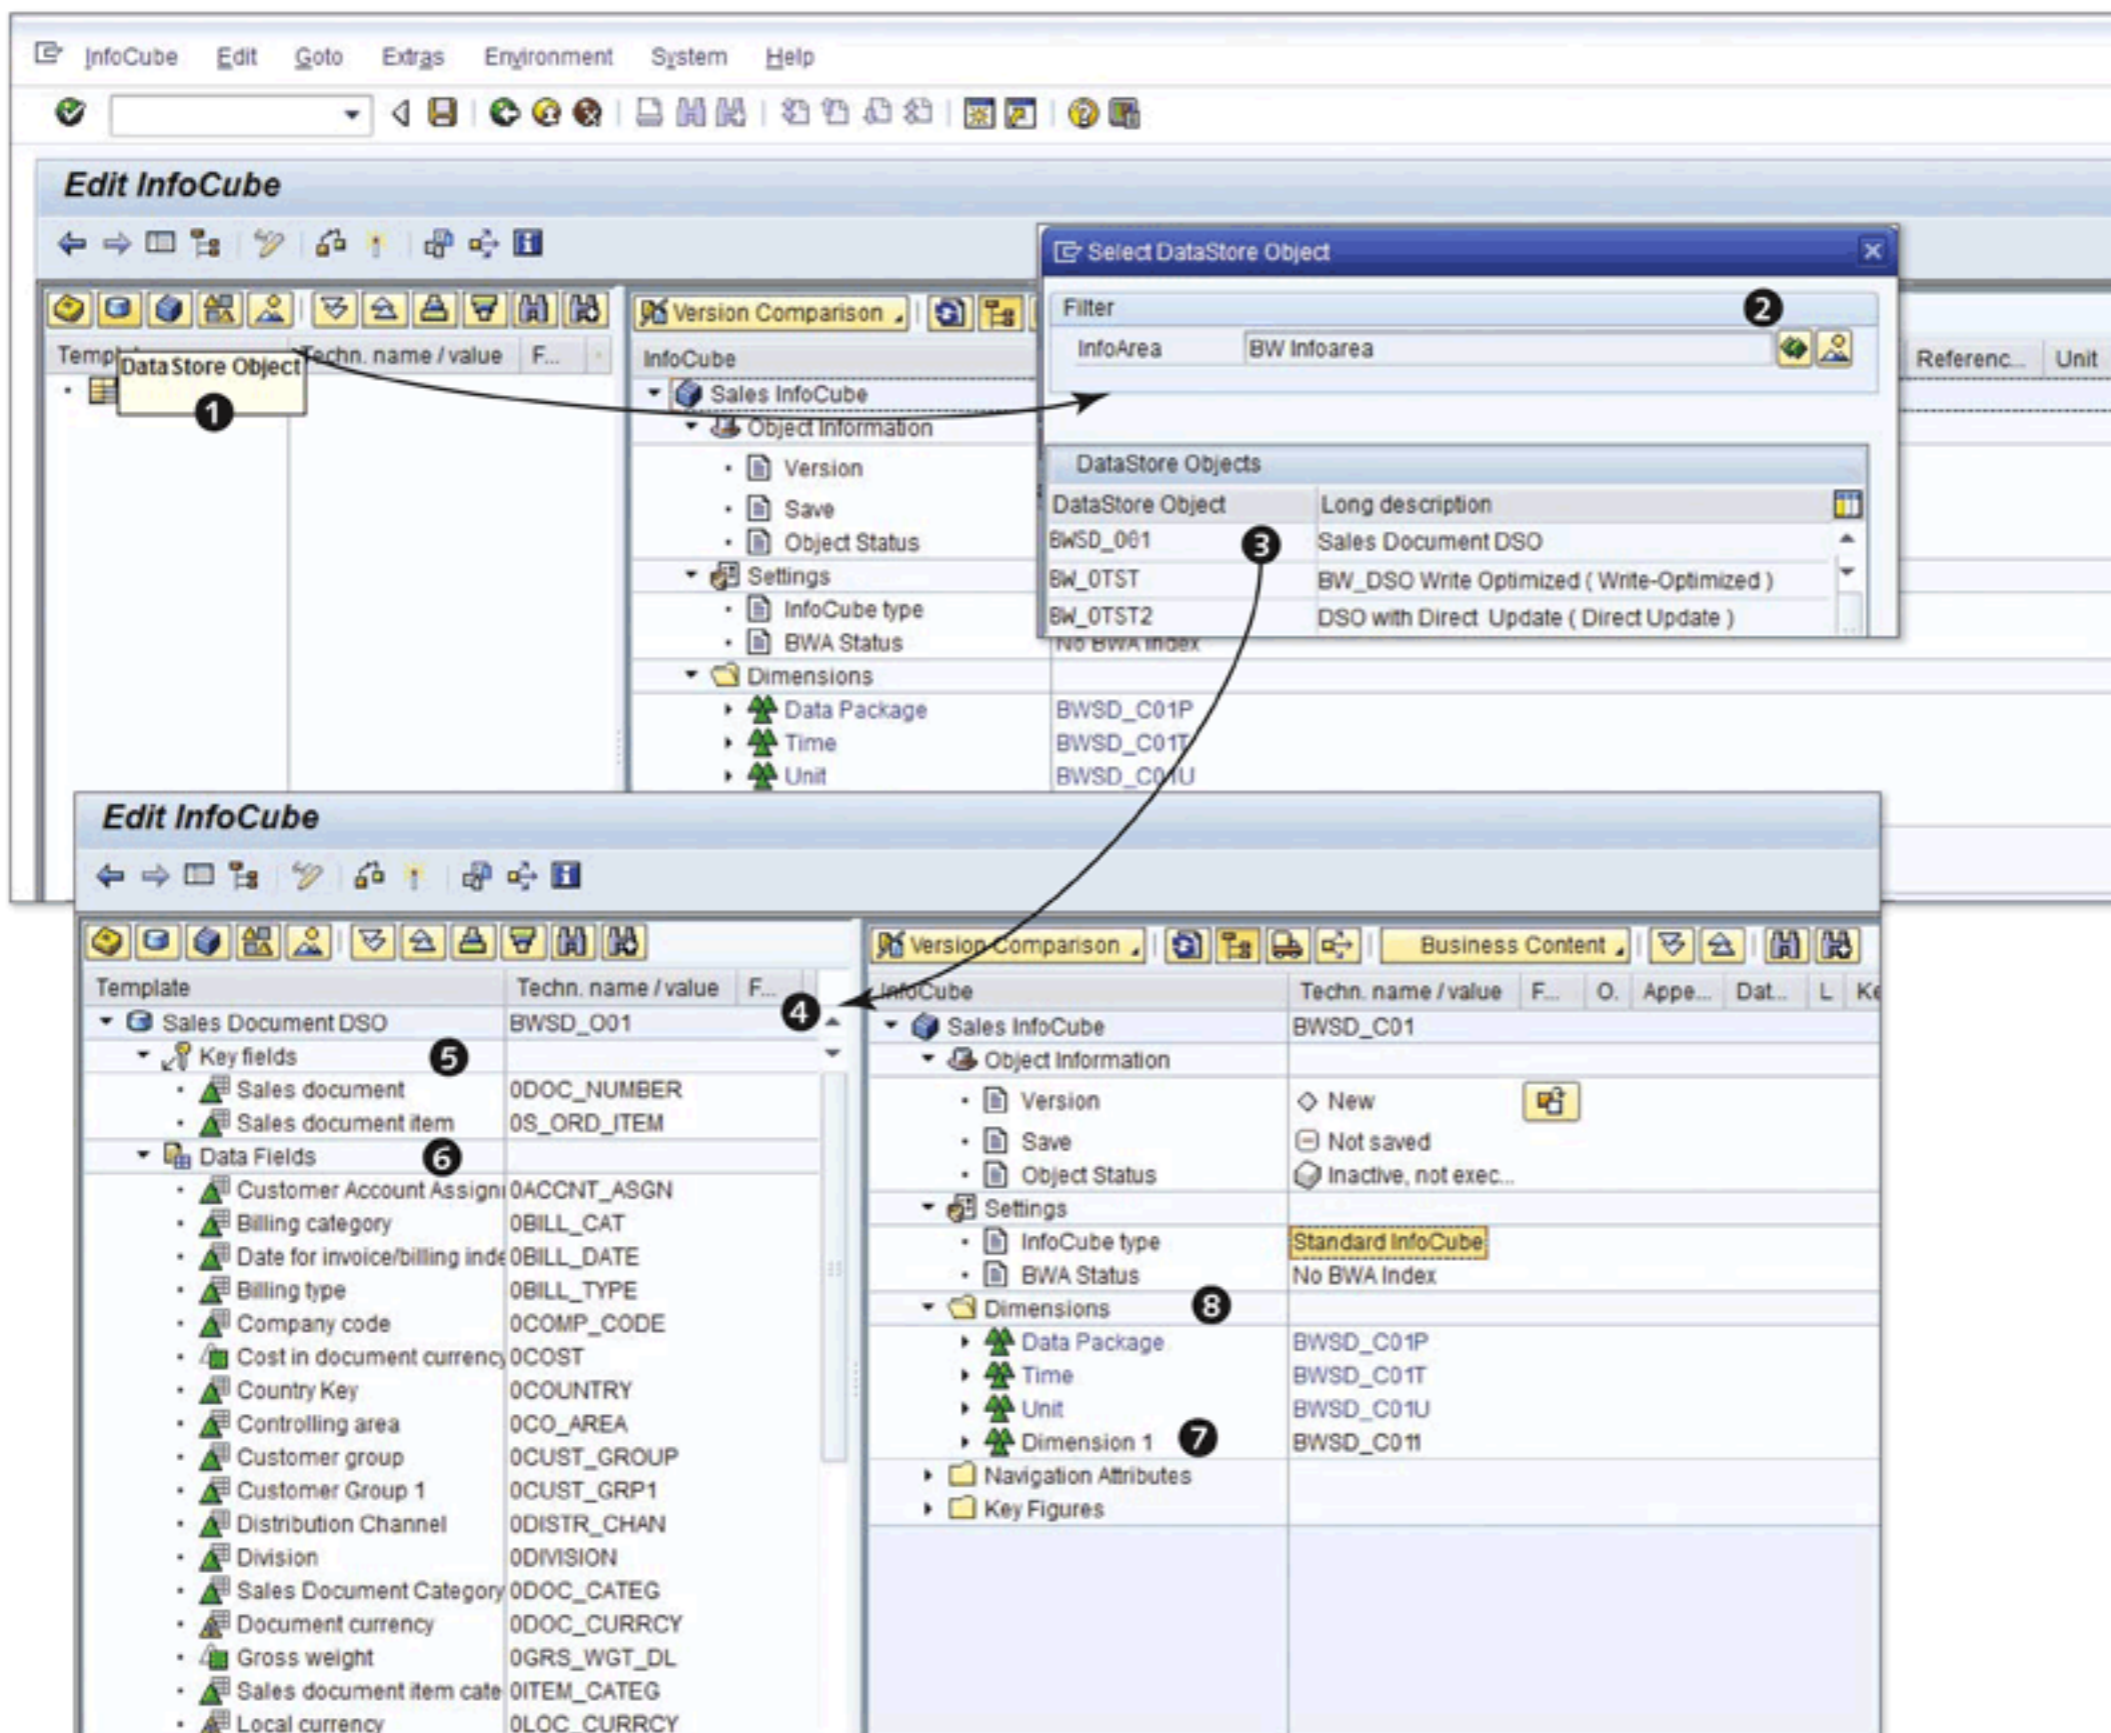

Figure 5.11 Using a DSO as a Template
In the example shown in Figure 5.11, we explain the process of adding InfoObjects by using a DSO as a template. Select the DSO icon from the left side of the screen (refer to ❶ of Figure 5.11), and then select the DSO either by using the SEARCH option or by directly double-clicking from the list shown after clicking on the INFOAREA icon (❷). Select the BWSD_O01 DSO from the list (❸).
Double-click on BWSD_O01. As shown in ④ of Figure 5.11, SAP NetWeaver BW shows all of the InfoObjects reading the definition of BWSD_O01. It also classifies InfoObjects as key fields (⑤) and data fields (⑥).
The selection of a template doesn't add InfoObjects to dimensions. As shown in ⑦ and ⑧ of Figure 5.11, there are still four dimensions in the InfoCube, and no characteristics are yet assigned to them.